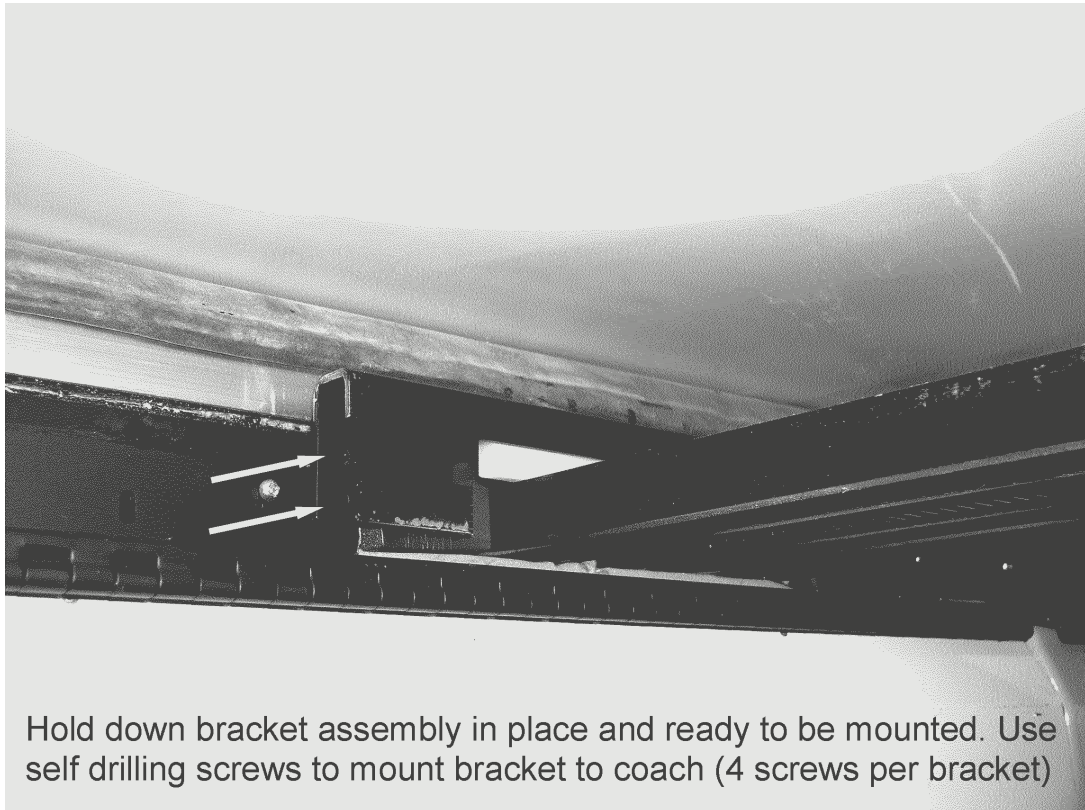

Figure 2
4. While holding the slide-out rail down and holding the bracket assemblies down and against the side of the coach, attach the brackets to the side of the coach via (4) self-drilling screws. **Refer to figure 2 below**